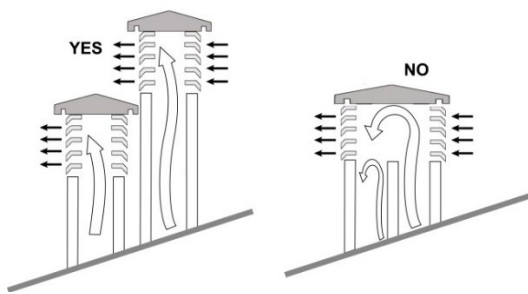

Fig.6
- Whenever using parallel output chimneys, it is advisable to raise a bracing element. (*Fig.6*)